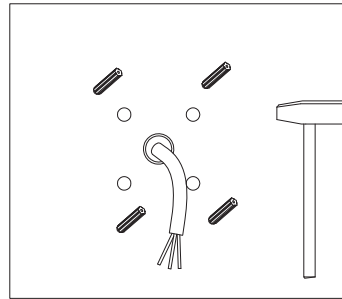

Figure 8
Step 5: Fix rubber plugs into holes (Figure 8);